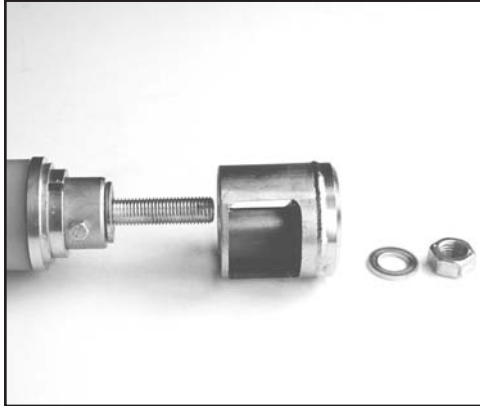

FIG. 66: SECURING BOLT
16. Screw bolt into the bore. Secure the bolt with a nut to hold in place (see Fig. 66).